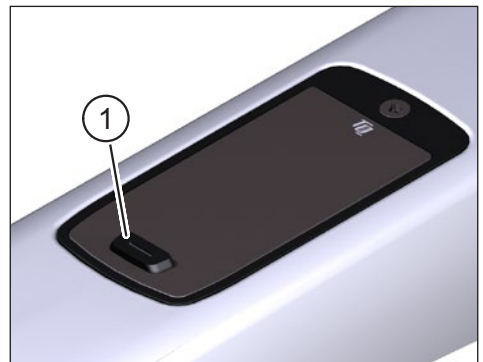

Fig. 1: Display
- ▶ Switch on the Drive Unit by **shortly** pressing the button (pos. 1 in Fig. 1) on the Display.
- ▶ Switch off the Drive Unit by **long** pressing the button (pos. 1 in Fig. 1) on the Display.